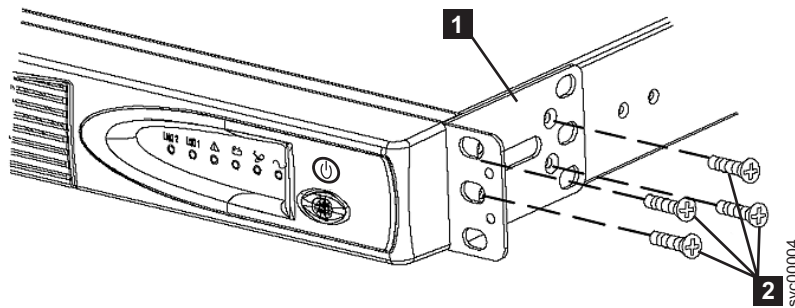

Figure 7. Installing the support rails for a 2145 UPS-1U into the rack
3. Attach the long side of a mounting bracket **1** to each side of the 2145 UPS-1U using four M3 × 6 screws **2** for each bracket, as shown in Figure 7.